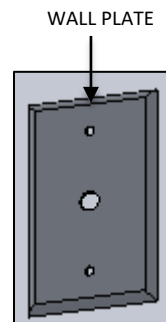

FIG. 5 - WALL PLATE
- b. WALL PLATE (as shown in FIG. 5)